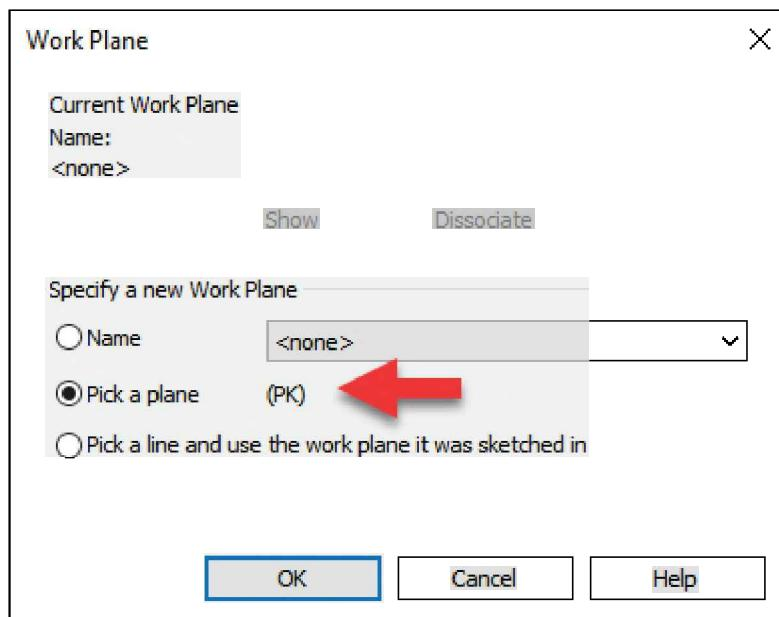

FIGURE 10-5.13 Work Plane dialog; select Pick a Plane
33. Select **Pick a Plane** and click **OK** (Figure 10-5.13).